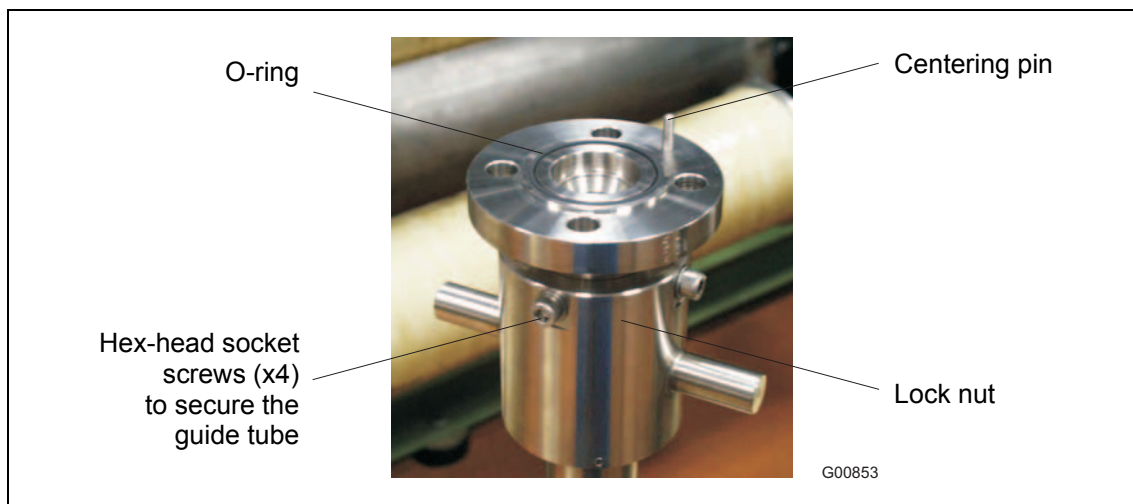

Fig. 13
- Insert the O-ring (55 x 3 mm [2.16 x 0.12 inches]) into the groove provided for this purpose (Fig. 13). The O-ring gasket and screws are included in the scope of delivery.